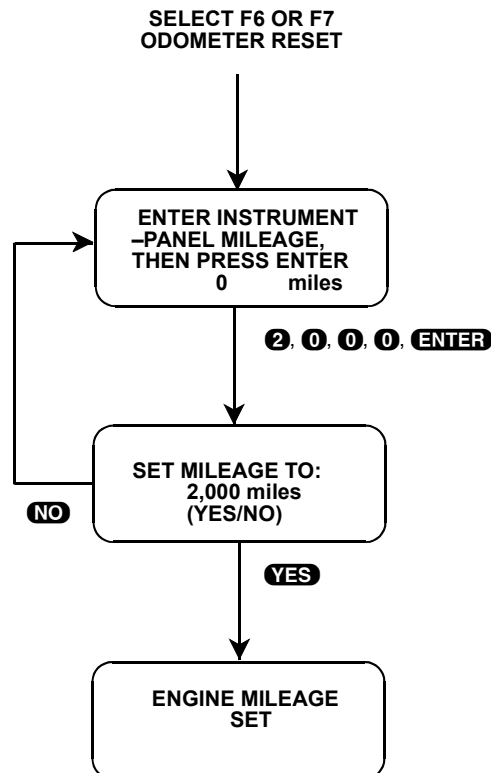

FIGURE 5-27. Odometer Reset
3. Use the **0** - **9** keys to enter the Odometer reading, then press **ENTER**. Entering 2,000 miles is used in the example flow chart in Figure 5-27.